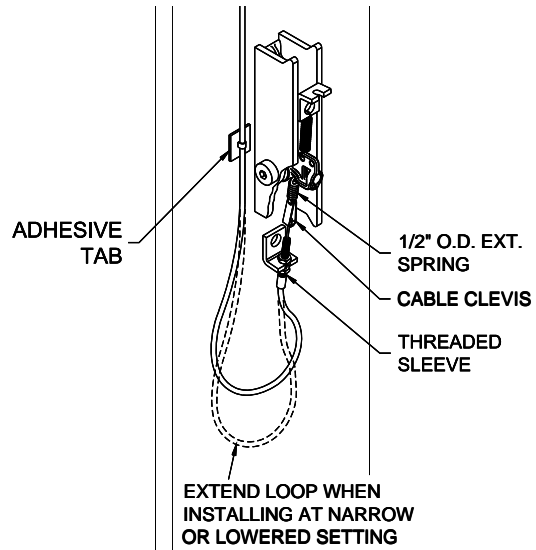

Fig 11 – Idler Column Lock Assembly
- 29) Attach Adhesive-Backed Tab to Idler Column left of the lock assembly (**Fig 11**). Route Lock Release Cable down left side of Idler Column and secure with loosely fit wire tie to Adhesive-Backed Tab. Attach Cable clevis to 1/2" O.D. Extension Spring.
- 30) Insert threaded sleeve portion of cable assembly in slot located on tab below lock pawl, **Fig 11**. With one jam nut located on each side of tab, adjust the threaded sleeve to begin to pull tension on the 1/2" O.D. spring. Snug jam nuts by hand.